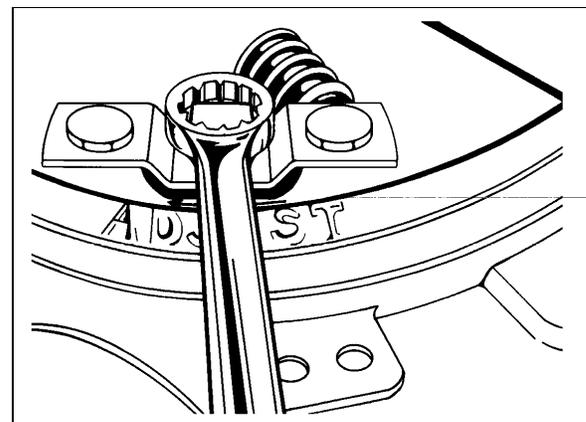
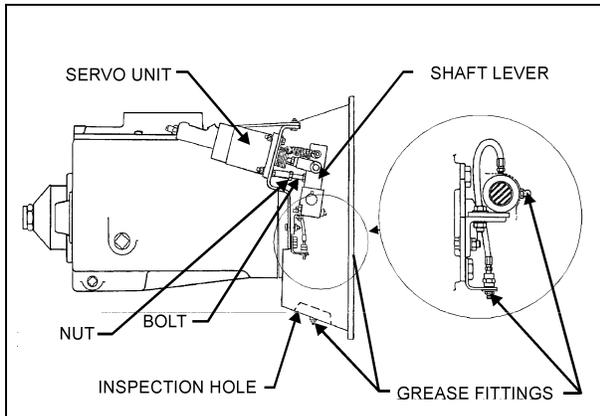

FIGURE 3: SQUARE HEAD BOLT MA3E0224
FIGURE 4: CLUTCH INSTALLATION
| FIG. 3: SQUARE HEAD BOLT | 02-3 |
| FIG. 4: CLUTCH INSTALLATION..... | 02-4 |
- Remove inspection cover at bottom of clutch housing (Fig. 4).
- If clearance is incorrect, release the clutch by depressing the clutch pedal to end of pedal travel. Insert a 3/4" socket (12 points) or a 3/4" box-end wrench through inspection hole (Fig. 4). Depress square-head bolt to adjust clutch (Fig. 3). The "Kwik-Adjust" will re-engage at a quarter of a turn. The flat surface on the bolt head will align with the flat edge of the bracket.
2. If clearance is incorrect, adjust bolt until it touches the shaft lever and locks in position with nut (Fig. 4).
1. Locate the bleed valve mounted at the end of servo unit. Remove dust cap (Fig. 4 and 6).
The clutch components should be lubricated every 6,250 miles (10 000 km) or twice a year, whichever comes first (refer to previous Fig. 4 to identify the clutch component grease fittings). The clutch release bearing (one grease fitting) and the clutch control cross shaft (three grease fittings, two on the operating cylinder side and one on the other side) should be lubricated with a good quality lithium-based soap or equivalent E.P. grease meeting N.L.G.I. grades 1 or 2.